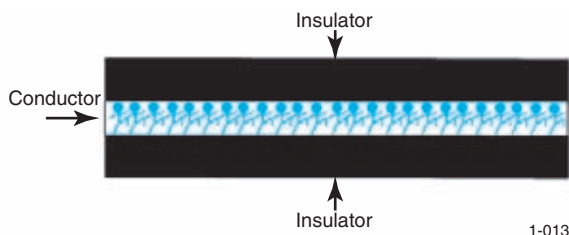

Figure 3-1. Conductors and insulators.
- **Conductors.** Conductors are materials with fewer than four electrons in their atom's outer orbit that allow easy movement of electrons through them. Copper is an excellent conductor because it has only one electron in its outer orbit. This orbit is far enough away from the nucleus of the copper atom that the pull or force holding the outermost electron in orbit is relatively weak. See Figure 3-1. Copper is the conductor most used in vehicles because the price of copper is reasonable compared to the relative cost of other conductors with similar properties.